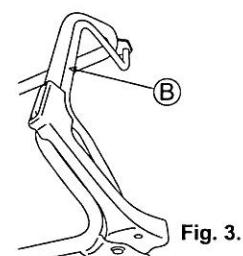

Fig. 3.
- 4 Push Drive clutch lever (B) forward to start mowing. (See Fig. 3.)